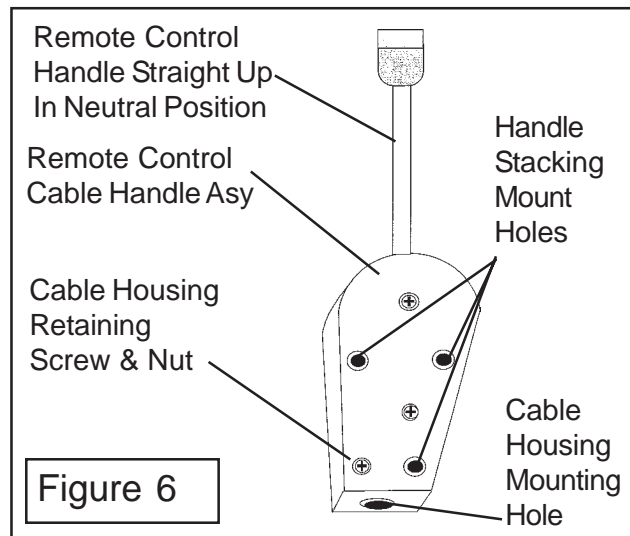

Figure 6
9. Remote Cable Control Handle. The remote control cable handle is a stackable type where they can be bolted together. All five of the handles used are the same (See Figure 6). Remove the Cable Housing Retaining screw & Nut (See Figure 6). Set the screw and nut aside for now, it will be reinstalled later.